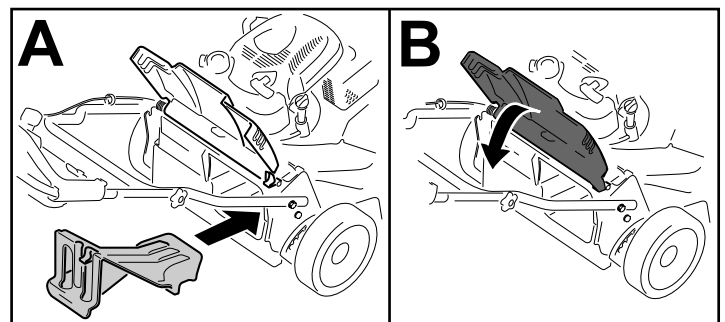

Figure 23
**Important:** Ensure that the rear-discharge plug is in place before you recycle the clippings (Figure 23).